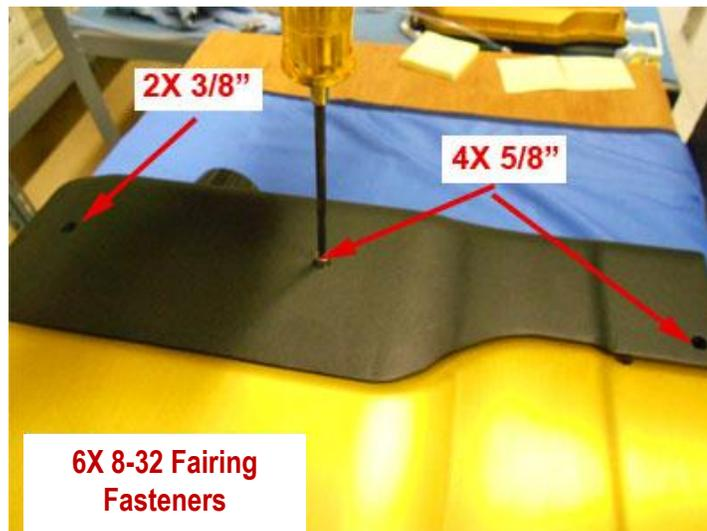

Figure 3.1.14. Placement of top 3 Fairing Fasteners (the other 3 are on the bottom side of the pylon).
4. **Figure 3.1.14** again shows the locations of the 6 #8-32 front fairing fasteners. There are three on each side: the top screws on either side are 3/8", the bottom two on both sides are 5/8".